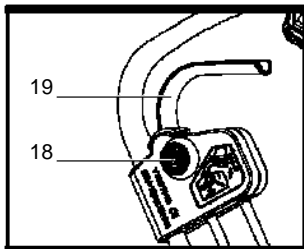

Fig. 9
The product is fitted with a lock-off button feature. To start the product, simply press the lock-off button (18) then fully press and hold the start/stop lever (19). The lock-off button can now be released. (See Fig.9)